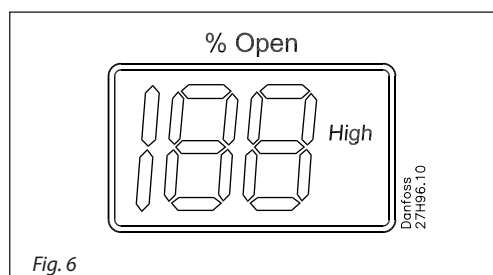

Fig. 6
- **High** represents that ICAD is operating the ICM valve like an ON/OFF solenoid valve with high speed according to a digital input signal (see fig. 6).